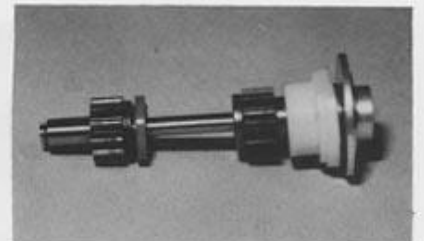

Fig. 65
-60- Slip the gear onto the tube and tap the assembly together using the plastic handle of a screwdriver. DO NOT use a vise to squeeze it on. The gear does NOT go all the way on. There should be enough room left in the gear (.100 or 2.5 mm) to install the Teflon bushing shown in Fig. 65.